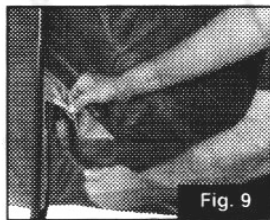

Fig. 9
1. Unzip access panel in the lower left front corner of tent and bring in electrical cord. Use only UL approved cords that are rated for outdoor usage. (Fig. 9)